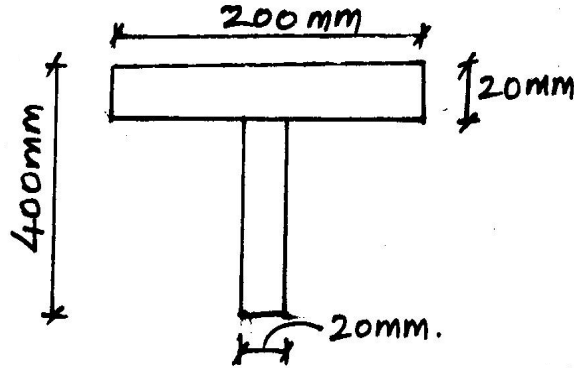

Fig. 2
- 14.(a) Derive the general equation of simple Bending. (6)
- (b) Calculate the slope and max deflection for a cantilever beam of length 'l' subjected to point load 'w' at the free end. Use double integration method. (4)
- 15.(a) Write down the limitations of Macaulay's method. (4)
- (b) A Hollow circular shaft of 6m length with inner and outer diameter as 75 mm and 100 mm respectively is subjected to a Torque of 10kN-M. If  $G = 80\text{GPa}$ . Determine the maximum shear stress produced and the total angle of twist. (6)
16. A Beam of T section shown in figure 2 is subjected to a shear force of 30 kN. Find the maximum shear stress and draw the shear stress distribution diagram. (10)